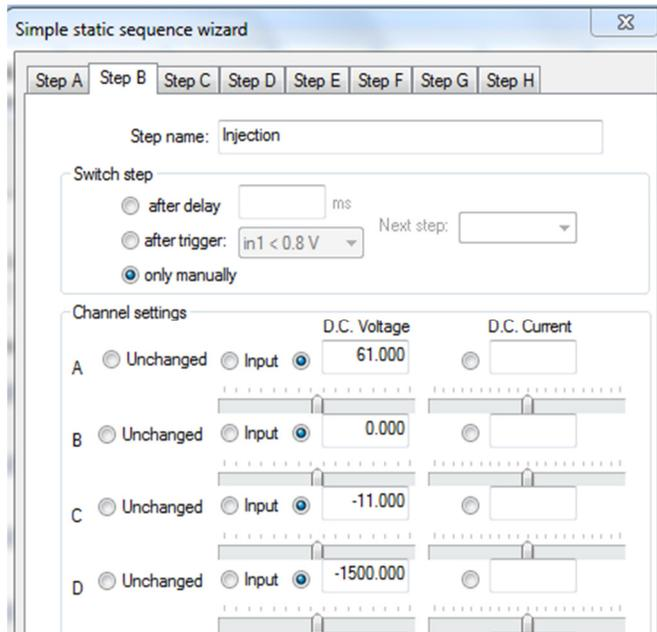

Figure 33. Example: Simple Sequence Wizard Electrokinetic Pinched Injection on a Chip.
11. **Table 4**. You can either click and drag the **DC Voltage** slider to set the values, or enter the values directly in the **DC Voltage** box. These settings are shown in **Figure 33**.